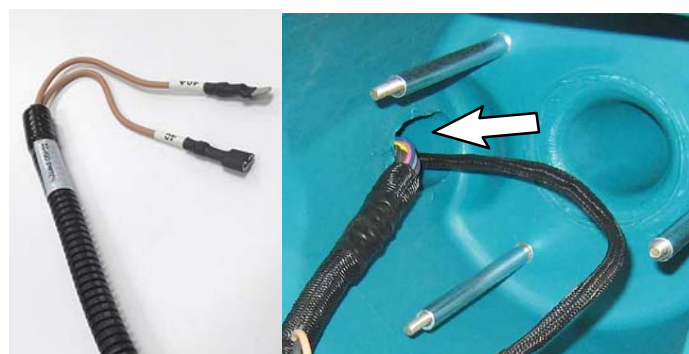

FIG. 25
11. Route telemetry harness wires, 40/Tan and 40A/Tan, up through the vacuum motor location and into the control housing (FIG. 25).